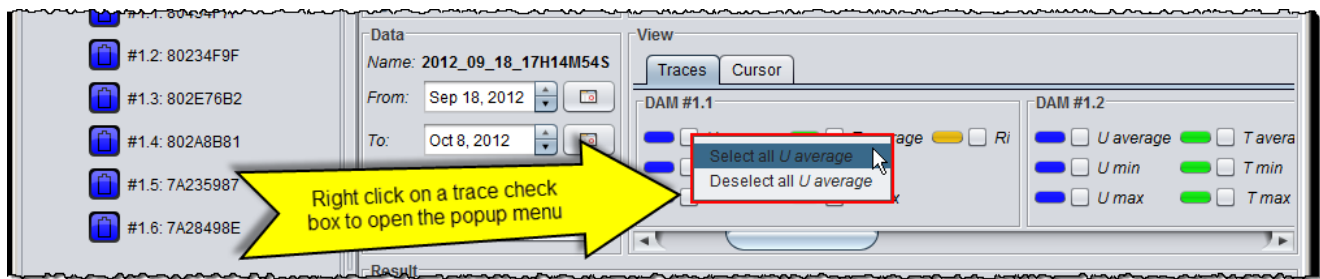

Figure 52: Multiple traces selection
1. Right click on the “U average” check box on any battery of the string as shown on Figure 52.